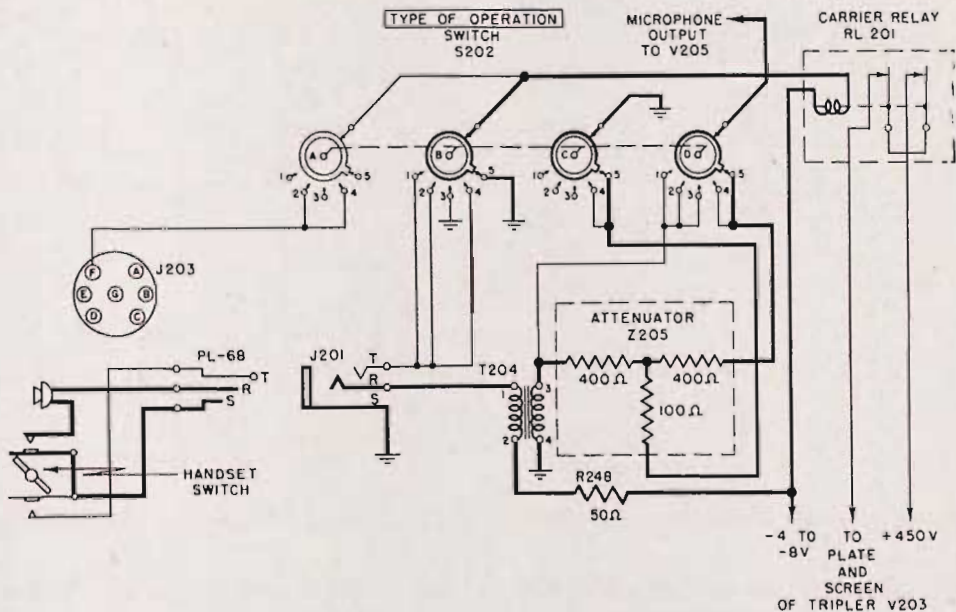

Figure 90. TYPE OF OPERATION switch, functional diagram for position 5.
(5) Position 5, MULTICHANNEL CONTINUOUS, is similar to position 3 except that the modulation level is adjusted to 25 percent per channel so that four channels of communication will modulate the transmitter 100 percent. The carrier relay is completed to ground through position 5, section B, of switch S202 (fig. 90). The modulation circuit is the same as for position 4.